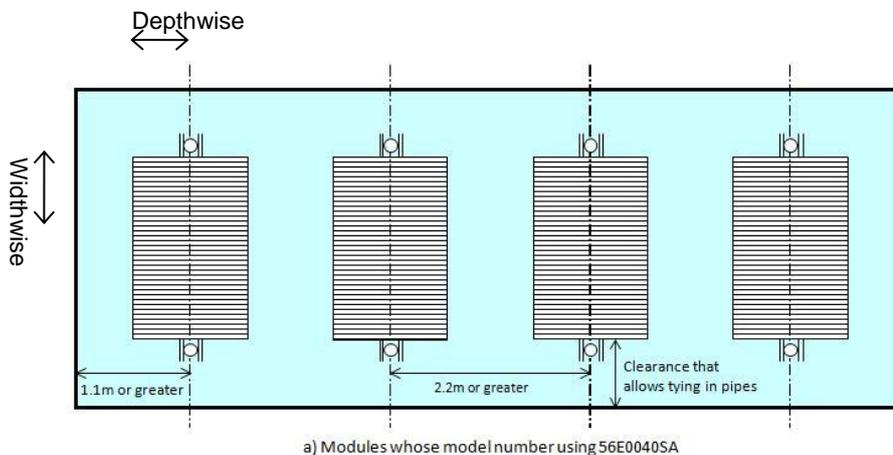

Figure 1-4 Module Layout
- Maintain the following depthwise center-to-center clearance. (See Figure 1-4)